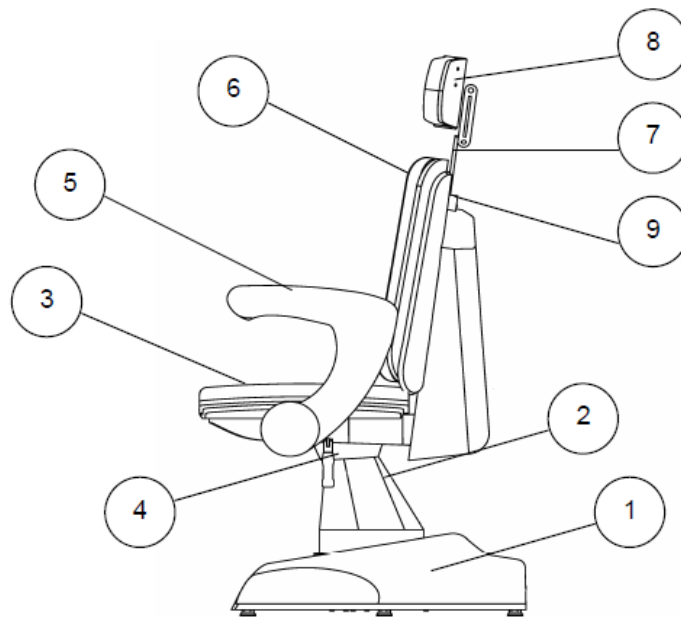

Fig.1 Side View
Position on the Fig. 1 & 2	Description
In order to adjust the headrest height (item 8, fig. 1) it is necessary to unlock the hand wheel, move the headrest up or down manually to the required position, and then lock it in place, (item 9, fig. 1). The angular position of the headrest is locked with a lever placed in the headrest back (item 7, fig. 1). The lever locks the headrest in its top position and unlocks in the down one. The maximum height of the guide of the headrest is marked with an arrow and word 'MAX'.
The rotation locking lever (item 4, fig. 1) is placed under the seat. In order to rotate the chair up to 90° to the left or right, release the lever. In order to lock the chair in the required position, relock using the lever.